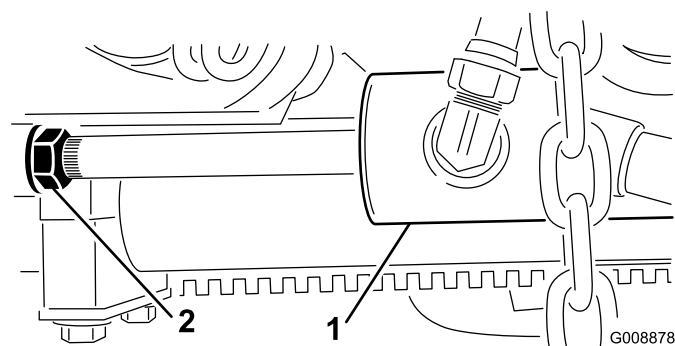

Figure 12
B. Back off the jam nut on the cylinder (Figure 12).